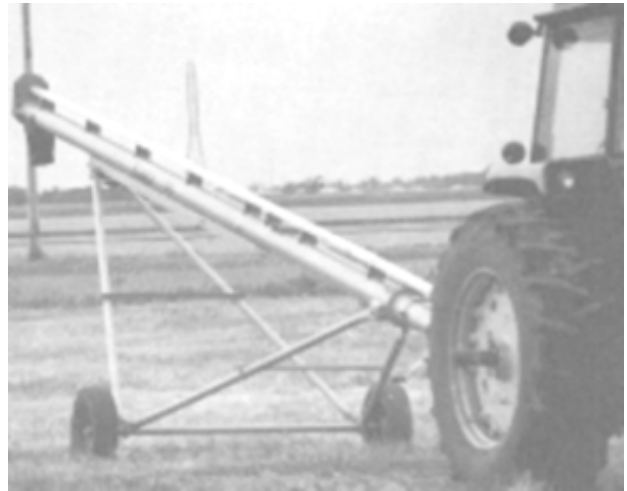

Fig. 14 TRACTOR TRANSPORT
8. Never go across slopes of more than 20 degrees. It is better to go straight up or down. See figure 14